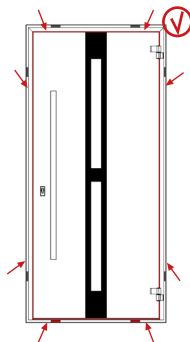

Fig. 21.
3.15. Close the door, check vertical and horizontal gaps and whether the door leaf is in plane with the frame (Fig. 21).